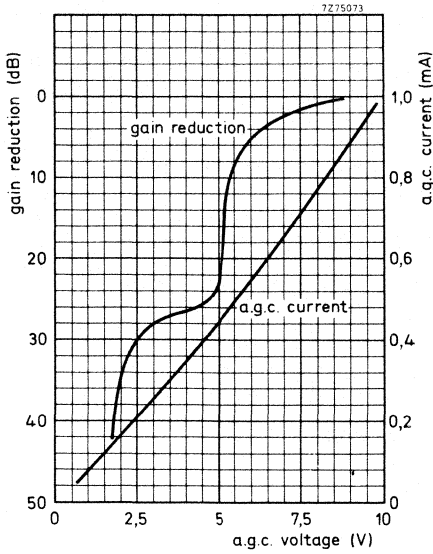

Fig. 4.
A.G.C. voltage (Fig. 4), at nominal gain + 9,2 \pm 0,5 V
A.G.C. current (Fig. 4)